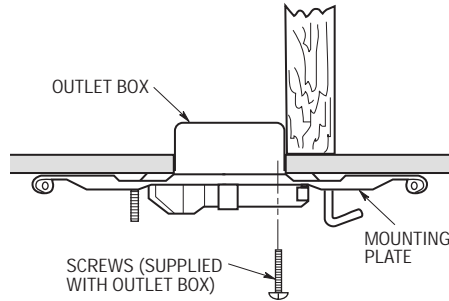

Figure 3
- 3. Pass the outlet box supply wires (black, white and ground) through the center hole in the mounting plate and securely attach the mounting plate to the outlet box using the screws supplied with the outlet box (Figure 3).